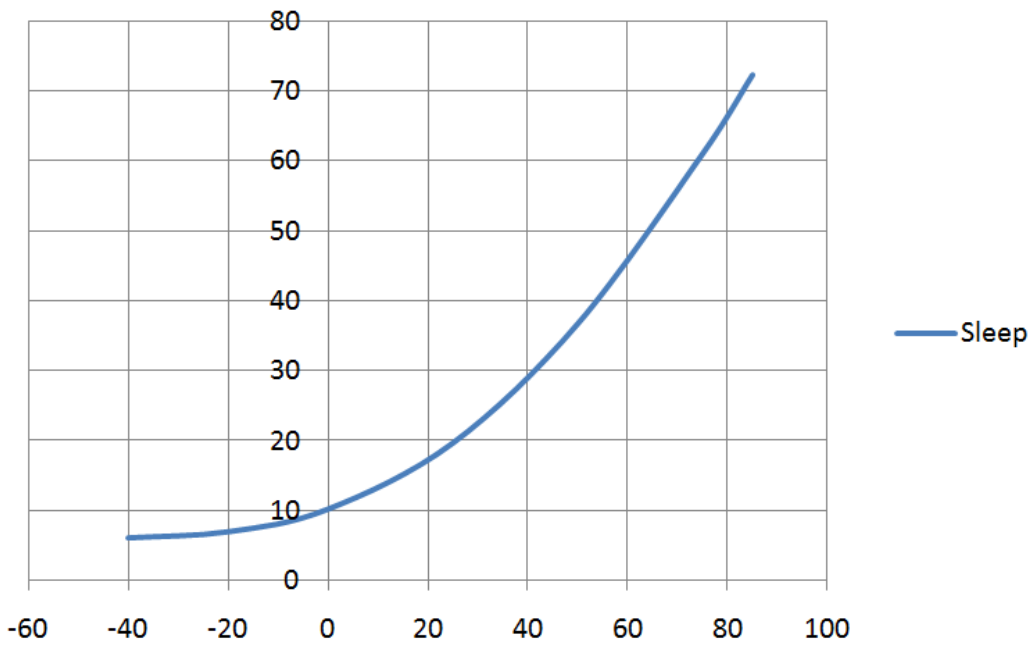
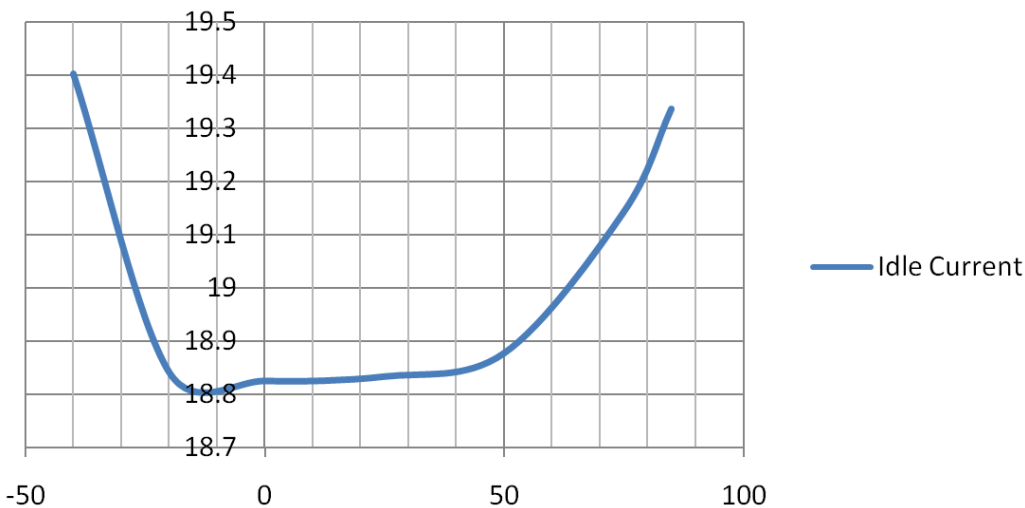
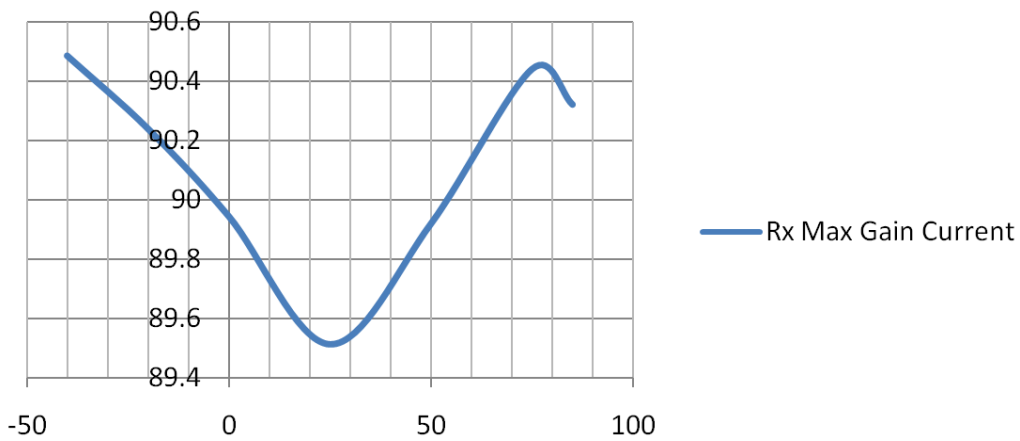

Figure 3: Sleep current (µA) vs Temperature (°C) at 3.3V Input
Figure 4: Idle current (mA) vs temperature (°C) at 3.3 V input to 3V3 pin
Figure 5: Max Rx gain current (mA) vs temperature (°C) at 3.3 V input to 3V3 pin
- There are power differences between the Voltage/Current numbers in this table and the data provided in Figure 3, Figure 4, and Figure 5. These figures show representative characterization of power over voltage/temperature characterization and are representative behavior.
- There are power differences between the Voltage/Current numbers in this table and the data provided in Figure 3, Figure 4, and Figure 5. The figures show representative characterization of power over voltage/temperature characterization and are representative behavior
This pin powers the low current supervisory/housekeeping circuitry of the module, used while the module is asleep. This voltage supply must be continuous, not under software control. The module autonomously wakes up and synchronizes to the network periodically, without any knowledge by the host apps processor. Figure 3 shows the effect of **VBATT** on deep sleep power consumption at a nominal VBATT of 3.3 V.